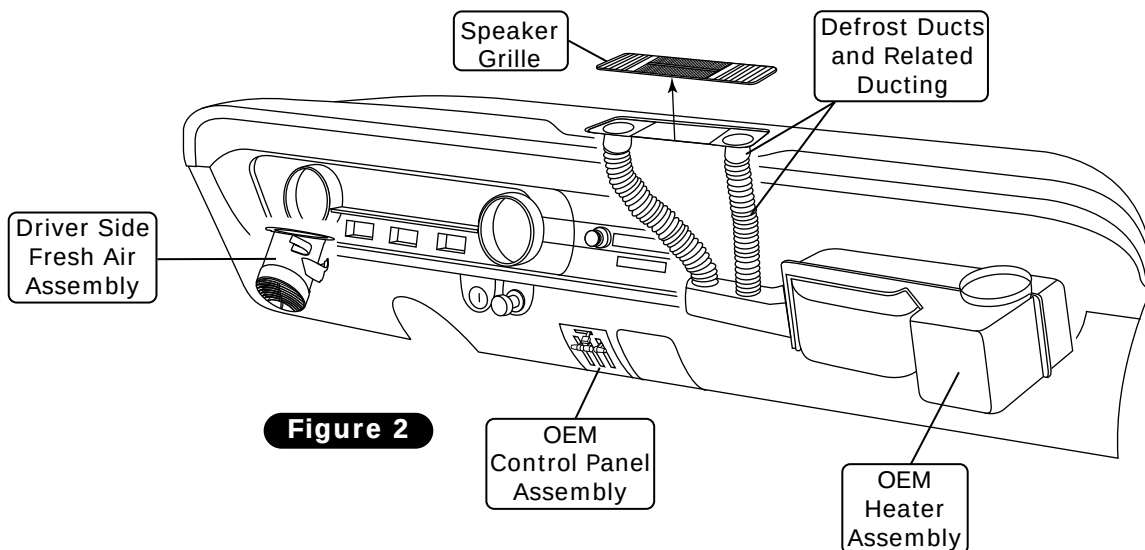

Figure 2
4. Remove OEM heater assembly (discard) (See Figure 2, below).
5. Remove driver-side fresh air assembly with cable (discard) (See Figure 2, below).
6. Remove OEM control panel assembly & radio (retain) (See Figure 2, below).
7. Remove speaker grille (retain) (See Figure 2, below).
8. Remove OEM duct hoses from defrost ducts (discard) (See Figure 2, below).
9. Remove OEM defrost ducts (discard) (See Figure 2, below).